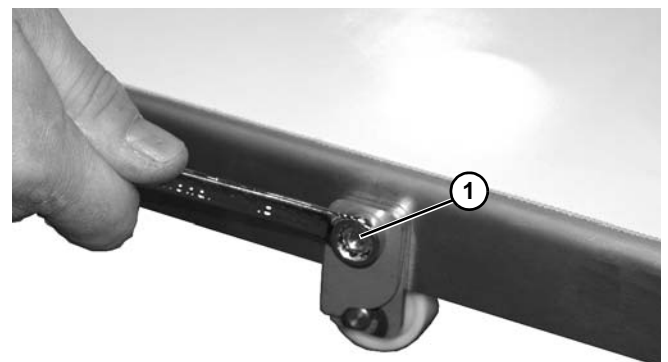

Figure 37
8. Tighten nut (**Figure 37, item 1**).